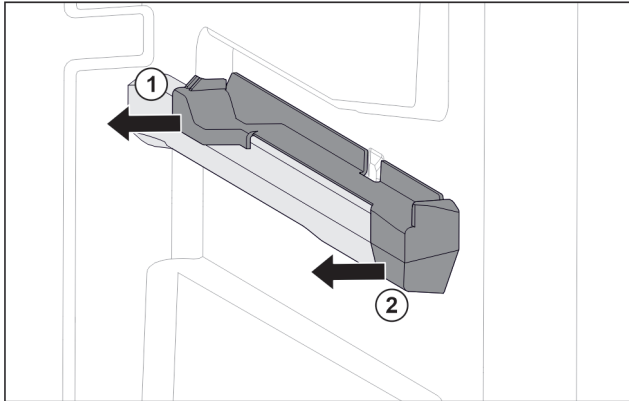

Fig. 85 Attachment on the right moulded rib
- ▶ Pull off attachment at the back sideways. Fig. 85 (1)
- ▶ Pull off attachment at the front sideways. Fig. 85 (2)